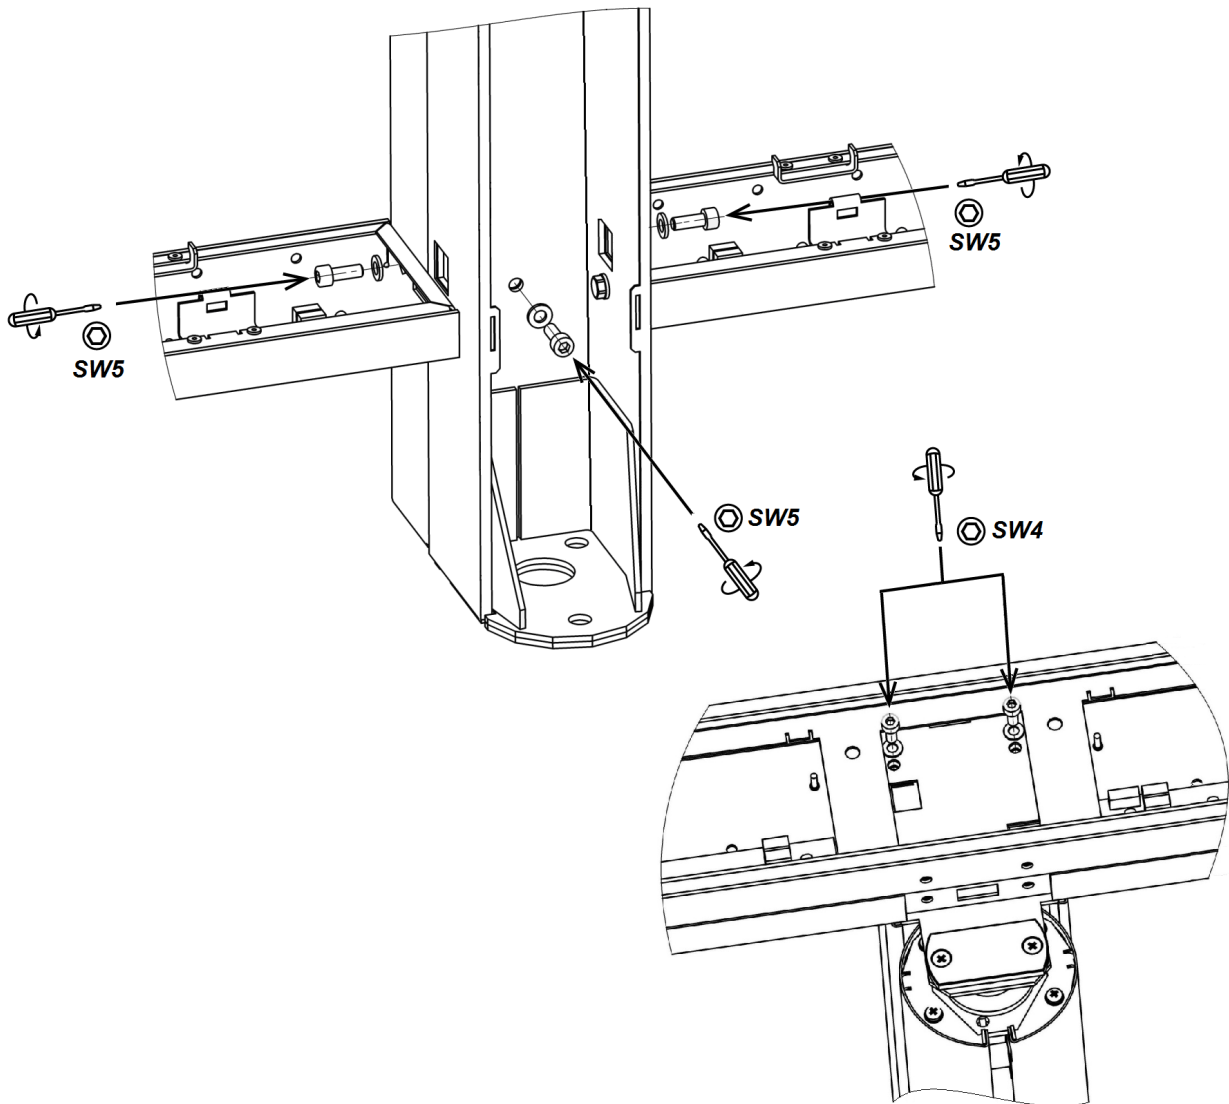

Figure 31. Removal of the central post's rear panel
1. Remove the section top cover (10) (Sect. 8.9.6) and two protection plates.
2. Remove the indication block of the central post (3) (Sect. 8.9.5).
3. Remove the swing panel cover plate (4) (Sect. 8.9.4).
4. Remove the central post cover plate (5) (Sect. 8.9.1).
5. Remove both covers from the bottom duct (14) (Sect. 8.9.7).
6. For the **ST-01** section: remove the central post's rear panel (6). Unscrew 2 M6×16 screws (for an SW5 Allen key) in the bottom ducts, one M6×16 screw (for an SW5 Allen key) at the bottom of the central post, and 2 M5×12 screws (for an SW4 Allen key) in the top duct (Fig. 31).